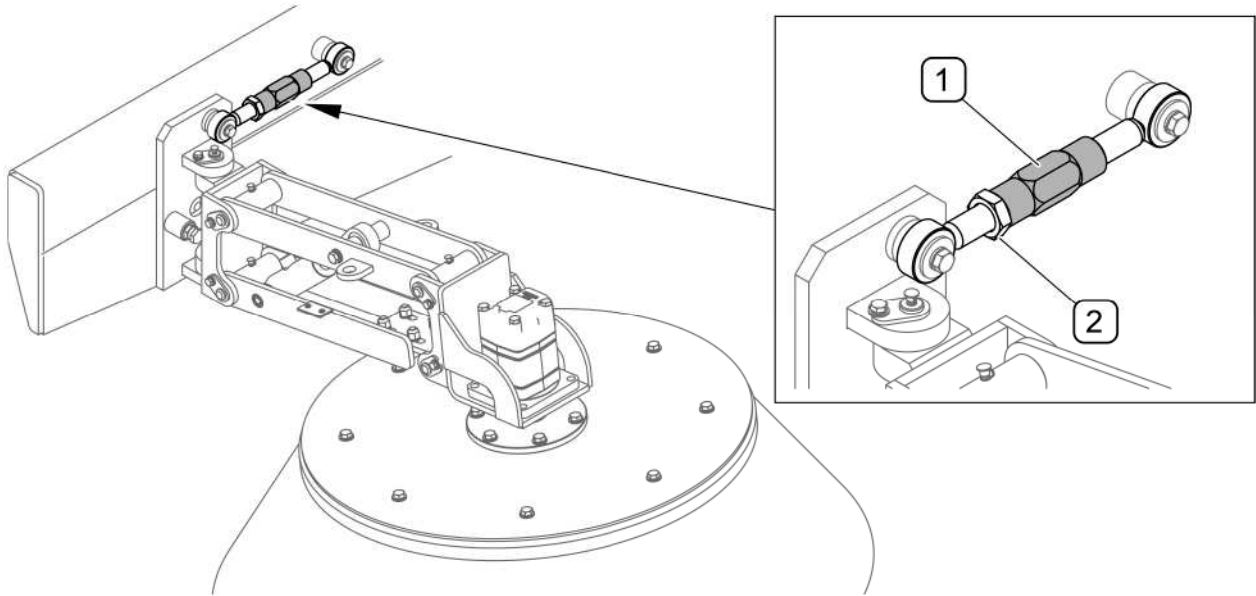

FIG. 5.4 Mechanical adjustment of lateral inclination of the left brush
(1) - tensioner; (2) - securing nut
In the sweepers with mechanical adjustment of the left brush (FIG. 5.4), lateral inclination of the brush is changed by means of tensioner (1). Before the adjustment, loosen nut (2) and then, set proper inclination of the brush by turning the tensioner. After adjustment, tighten securing nut (2).